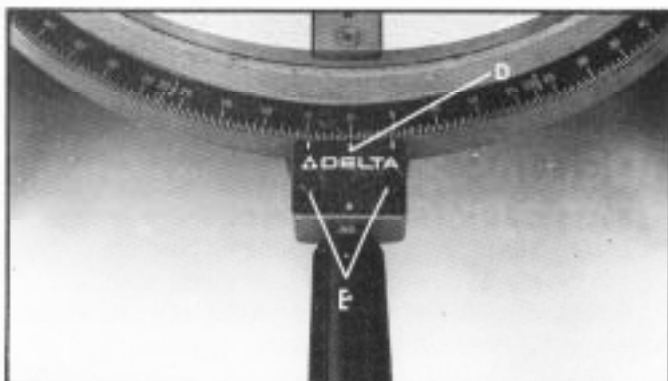

Fig. 24
6. When you are certain the cut is at 90 degrees, adjust the pointer so that the center line (D) Fig. 24, points to the 0 mark on the scale by loosening the two screws (E).